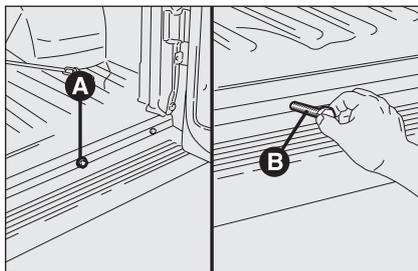
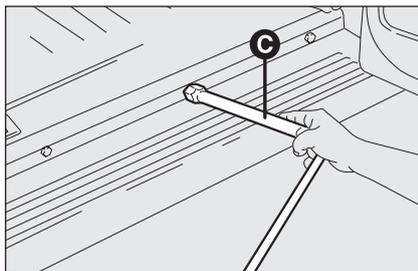
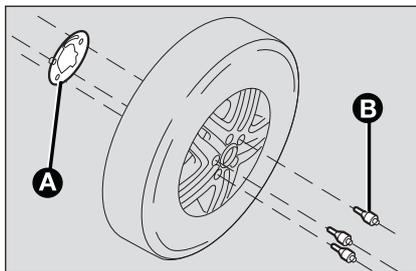

fig. 6
fig. 7
fig. 9c
- for vans, open 180° the load compartment door and remove the cap from the hole **A-fig. 6** to fit the extension **B-fig. 6** and the wrench **C-fig. 7**;
- fit the extension **B-fig. 6** into the hole;
- fit the wrench **C-fig. 7** and turn it counterclockwise to lower the spare wheel;
- introduce the wheel wrench **C-fig. 7** on the extension **B-fig. 6** and turn it clockwise to allow the spare wheel to be raised until it is resting completely on the housing under the floor pan.
- Assemble the relevant plate **A-fig. 9c** on the alloy wheel, fixing it with the supplied screws **B-fig. 9c** using wrench **C-fig. 7**;
– Introduce the wheel disassembly wrench **C-fig. 7** on extension **B-fig. 6** and turn it clockwise in order to allow the spare wheel to rise.
- remove the extension **B-fig. 6** and re-fit it together with the wrench **C-fig. 7** into the tool compartment;